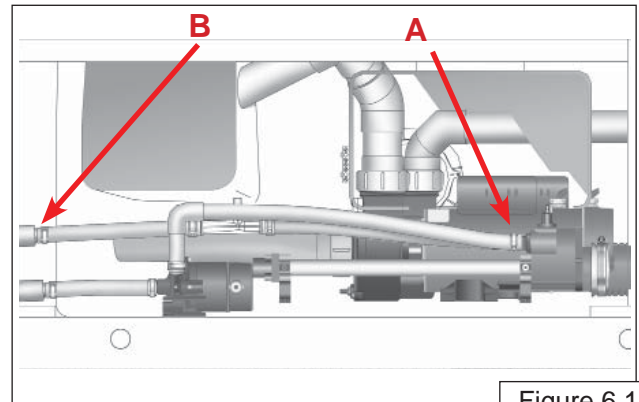

Figure 6.1
- Cut new $\frac{3}{4}$ " tubing to fit between (Figure 6.1 A & B) (your equipment compartment may look different).
wall fitting (Figure 6.1 A & B)). Slide hose clamp on wall fitting side to heater side.
- Place hose clamps back onto each end of new tubing (Figure 6.1 A & B).